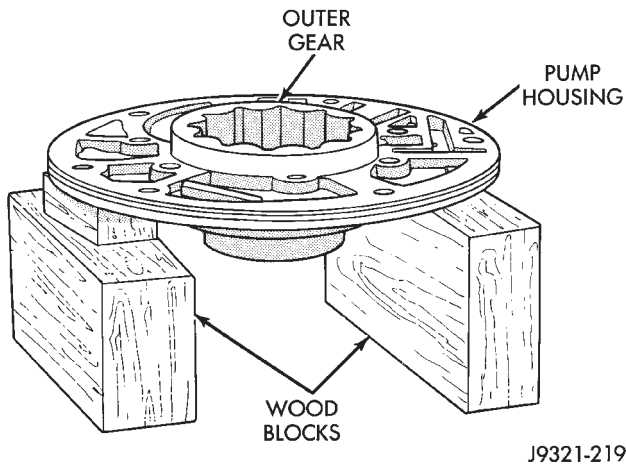

Fig. 47 Supporting Pump And Installing Outer Gear
(1) Lubricate gear bore in pump housing with transmission fluid.
(2) Lubricate pump gears with transmission fluid.
(3) Support pump housing on wood blocks (Fig. 47).
(4) Install outer gear in pump housing (Fig. 47). Gear can be installed either way (it is not a one-way fit).